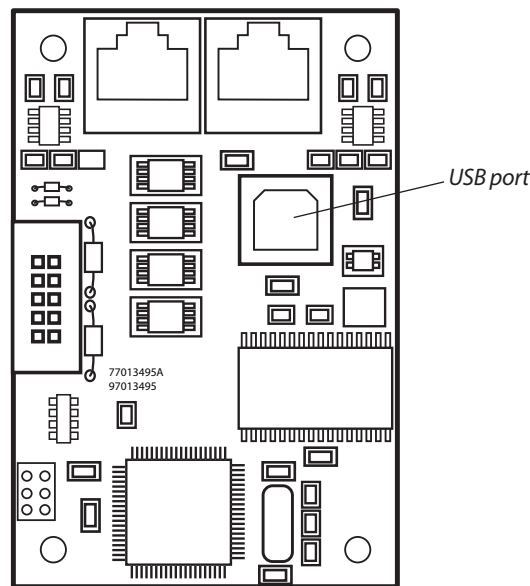
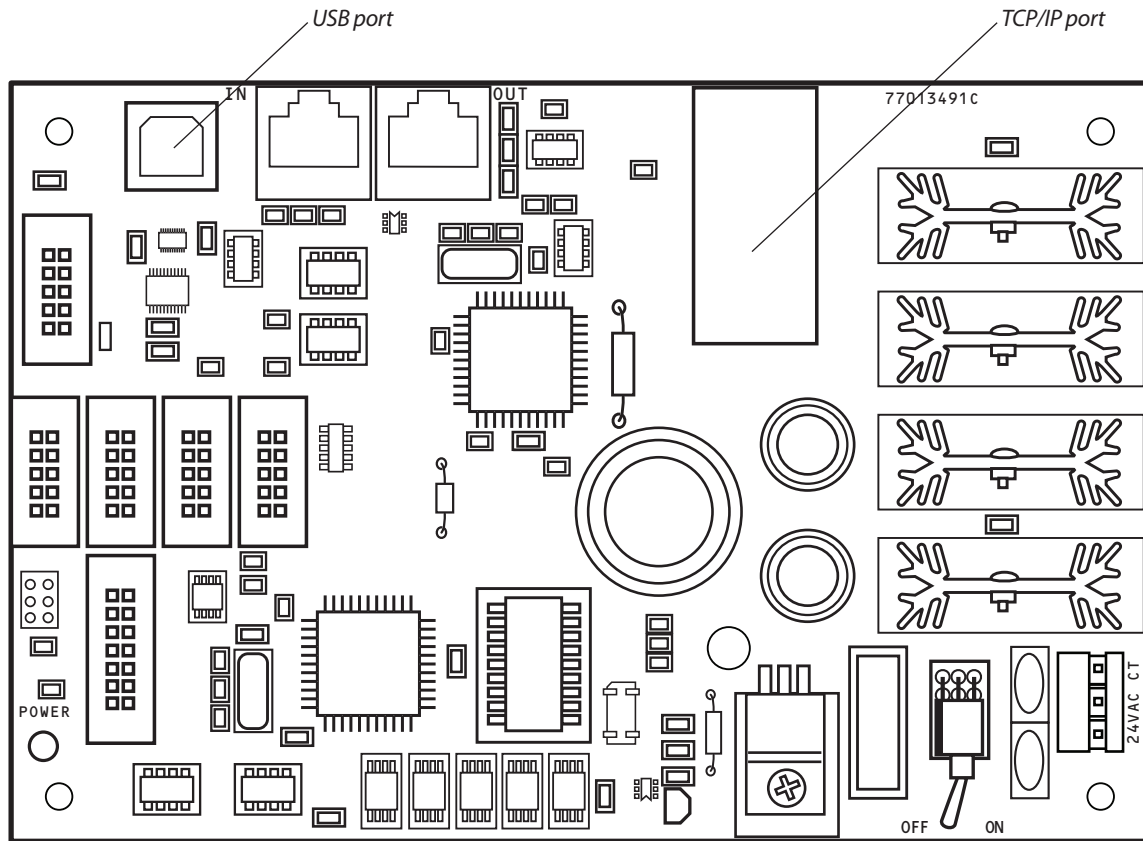

Figure 2.1 Basic Network Controller USB Port
Figure 2.2 Advance Network Controller USB and TCP/IP Ports
1. Connect the USB cable from the PC with the installed software to either the Basic or Advance Network Controller port as shown in Figure 2.1 and Figure 2.2.
1. Connect the lighting system from the TCP/IP port on the Advance Network Controller to your PC. See Figure 2.2 for location.